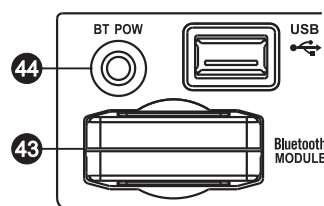

Fig. 4
(A) Place the Bluetooth module into the Bluetooth Slot 43. Fig 4.